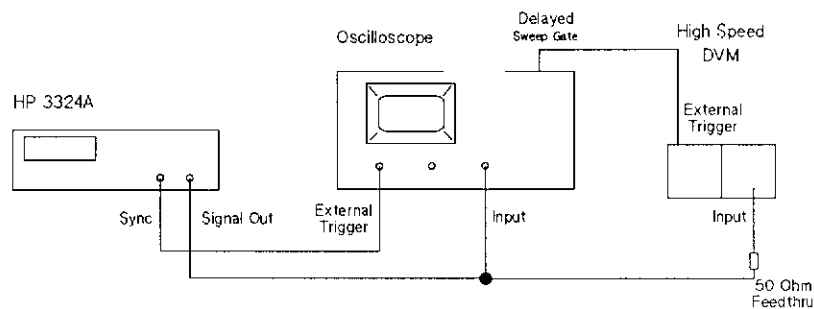

Figure C-5. Function Amplitude Accuracy Test Set-Up
7. **Function Test.** Set up the equipment as shown in Figure C-5.